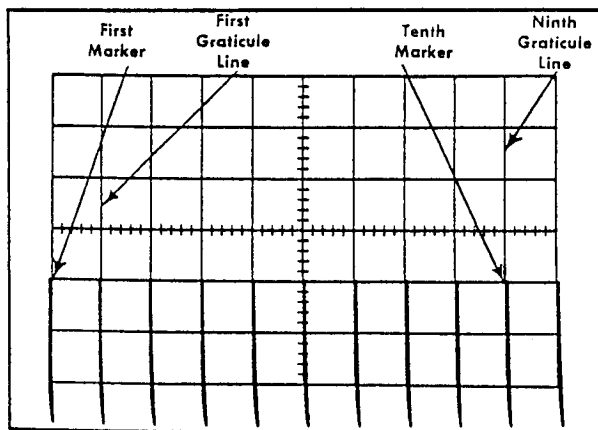

Fig. 5-12. Typical crt display showing correct normal gain adjustment.
- d. Check—Crt display for one marker each division between the first and ninth graticule lines (see Fig. 5-12)  $\pm 0.24$  division ( $\pm 3\%$ ).